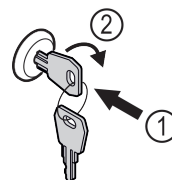

Fig. 191
- ▶ Insert key Fig. 191 (1).
- ▶ Turn key clockwise by 90° Fig. 191 (2).